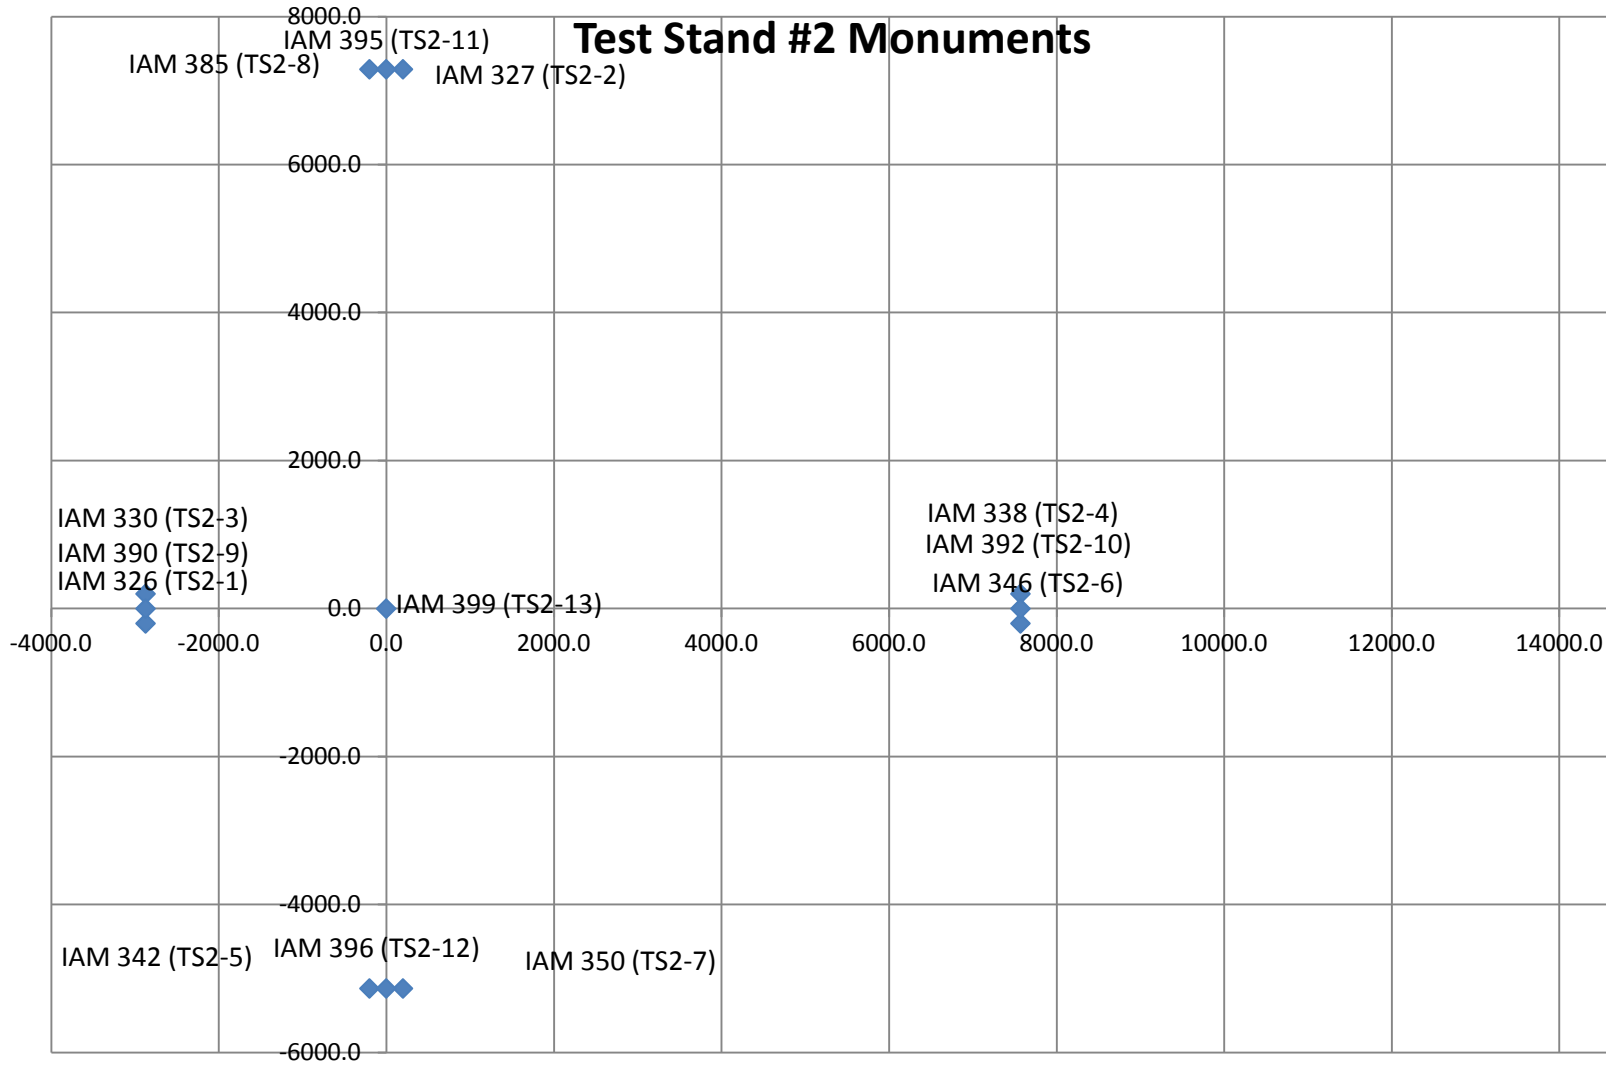

Figure 2: Monument Layout for Test Stand #2 (from D1200869)
- The features of the BSC mechanical test stand which interface to the BSC-ISI platform shall be used to establish a centerline and two offset lines with alignment monuments/references in the floor, as depicted in the D1200869 (see also Figure 2).
The reference monuments for the cartridge assembly on test stand 2 are given in D1200869 and in Figure 2 for convenience.